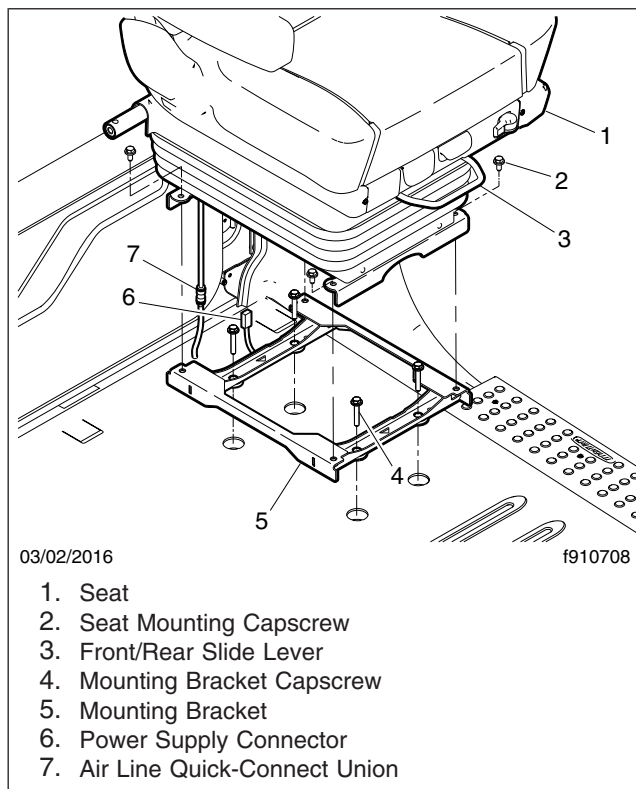

Fig. 1, Seat Installation
6. Disconnect the power supply from the seat, if applicable. See **Fig. 1**.
Do not use the front/rear slide lever, shown as item 3 in Fig. 1, as a lift handle when removing or installing the seat. Doing so will damage the lever and prevent operation of the front/rear slide.